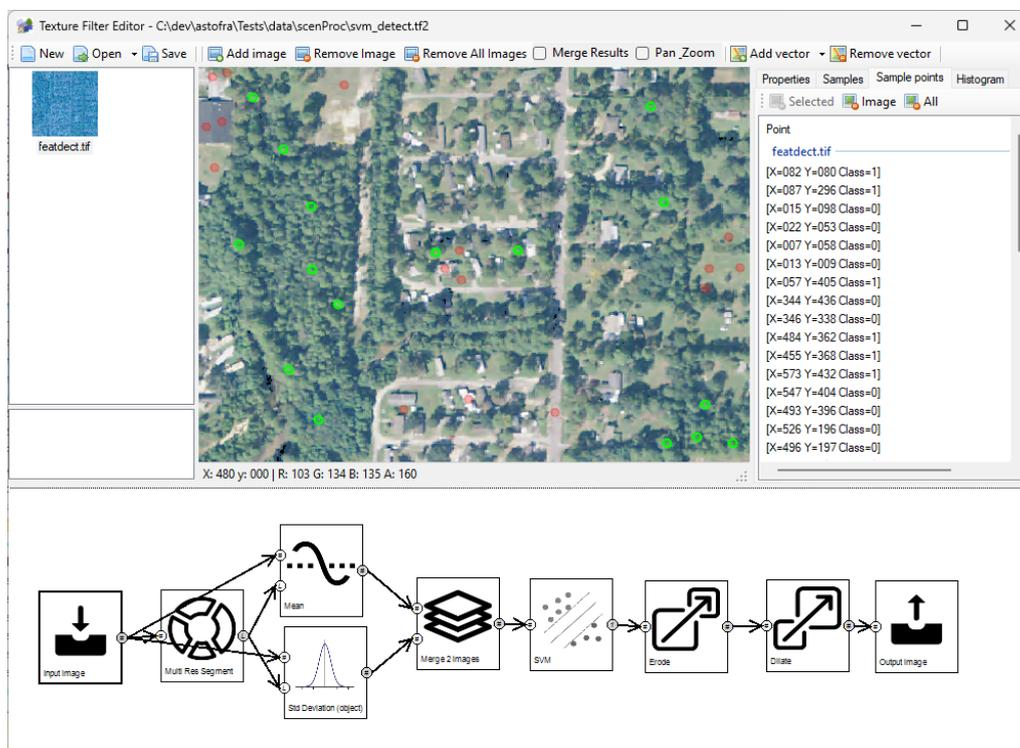

Figure 6.49: The input images showing the sample points used for the machine learning algorithm training data.
1. The input image is a 4-band image, containing R, G, B and NIR bands, see Figure 6.49. The sample points that have been defined for the image are also shown. A number of positive sample points have been made in the vegetation we want to detect and a number of negative sample points has been made in features we don't want to detect (grass, buildings, roads).